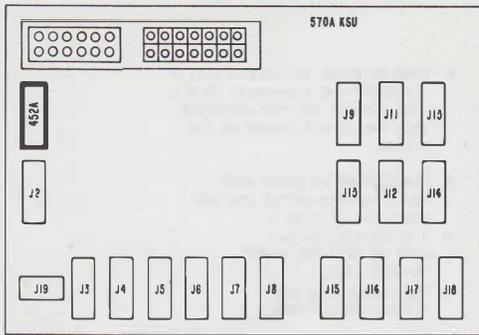

Fig. 46—Location of 452A KTU, Power Failure Transfer Relays
4.58 Install 452A KTU in J1. See Fig. 46 for KTU location.